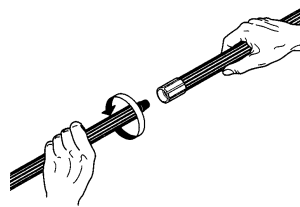

fig 2
- 3.2.1. Insert the lance into the trigger assembly and twist to secure (fig 2).